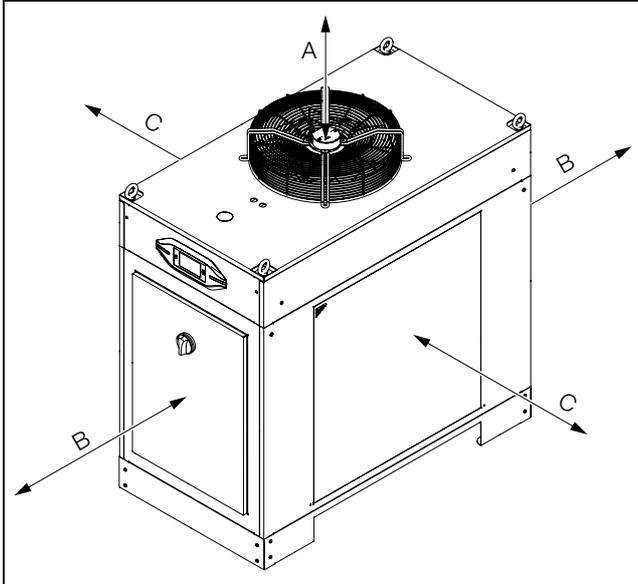

Fig. 13: Minimum distances
- The opening on top of the chiller must be freely accessible to enable the unhindered expulsion of hot air (see fig. 13). To allow connection of the supply lines and facilitate maintenance and repair work, the minimum distances shown under fig. 13 should be adhered to.
- In order to avoid an "air short-circuit" (mixing of air intake and waste air) and ensure full cooling performance, the minimum distances shown under fig. 13 should likewise be adhered to.